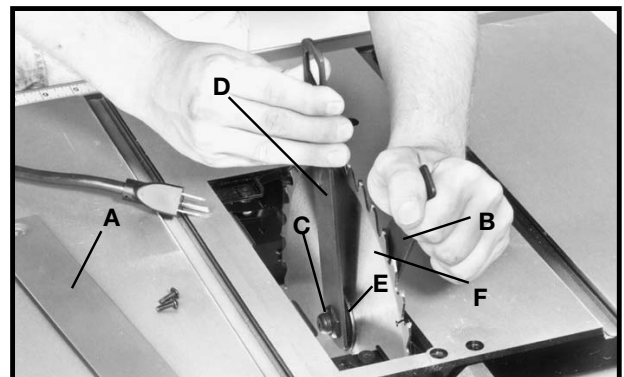

Fig. 45
1. Raise the saw blade to its maximum height and remove the table insert (A) Fig. 45.
2. Using the open end wrench (B) Fig. 45, place open end of wrench on flats on inside blade flange to keep the saw arbor from rotating and remove arbor nut (C) with wrench (D). Turn nut (C) counterclockwise to remove. Remove outside blade flange (E) and saw blade (F).
3. Assemble new blade, making certain teeth of blade are pointing down at the front of the saw table and assemble the outside blade flange (E) Fig. 45, and arbor nut (C). Tighten nut (C) with wrench (D) by turning nut clockwise while holding arbor steady with other wrench (B).
For added safety and convenience the miter gage can be fitted with an auxiliary wood-facing. This auxiliary wood-facing can be fastened to the front of the miter gage by using two wood screws through the slots (A) Fig. 45, provided in the miter gage body and into the wood-facing.